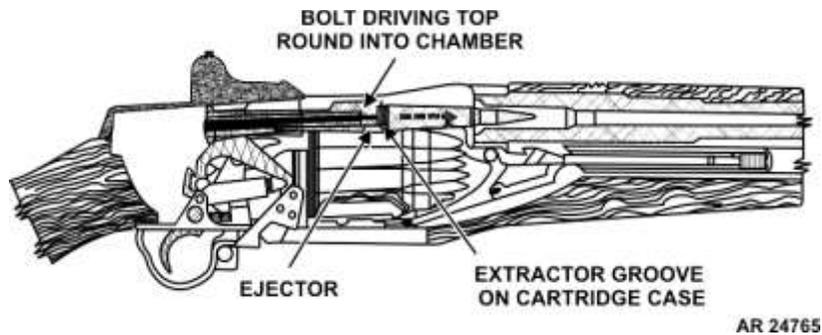

Figure 56 -Chambering
- 2) **Chambering:** Chambering occurs when a round is moved into the chamber. This takes place as the bolt goes forward under force from the operating rod spring, picking up the top round in the clip and driving it forward into the chamber. Chambering is complete when the extractor snaps into the extracting groove on the cartridge case and the ejector is forced into the face of the bolt (fig 56).